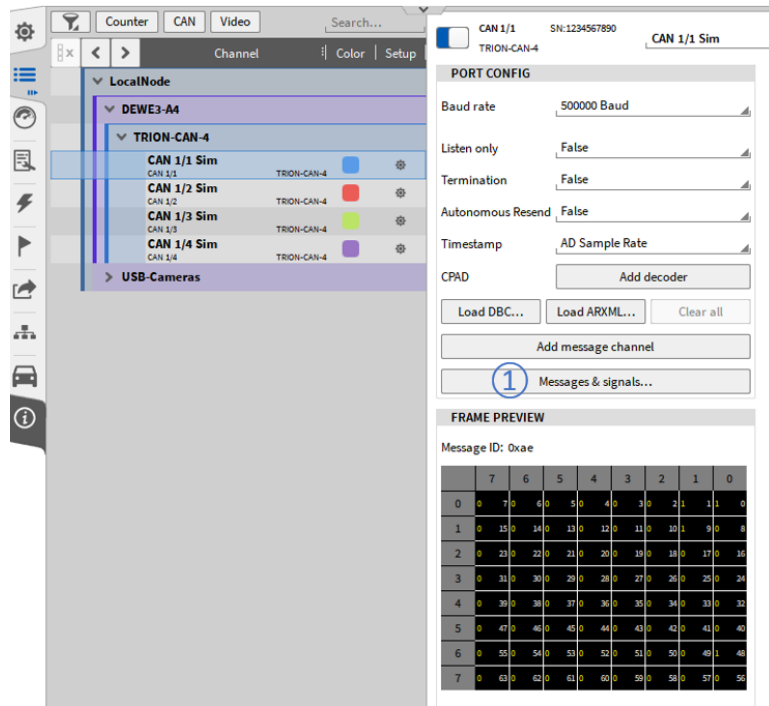

Fig. 7.195: CAN port configuration
Instead of using .dbc or .arxml files for data decoding it is also possible to add CAN messages and signals manually. OXYGEN provides a CAN editor for this purpose which can be opened by pressing the *Messages & signal* button the CAN port configuration (see ① in Fig. 7.195):